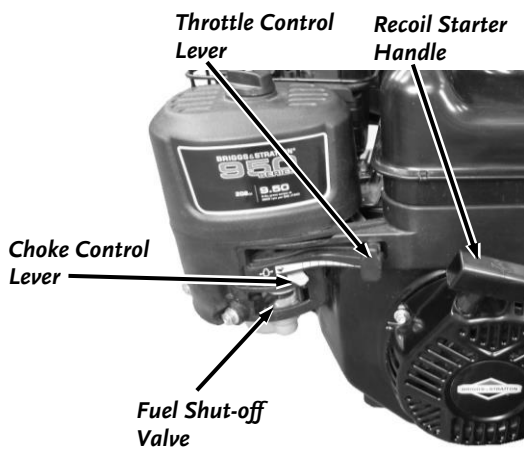
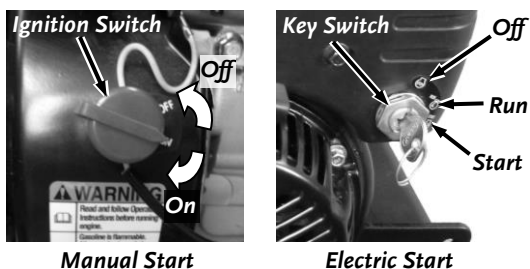

Figure 13
Figure 14
2. Make sure the fuel shut-off valve is in the “ON” position (**Figure 13**).
5. Manual Start: Turn the Ignition Switch to the “On” position (**Figure 14**). Grasp the recoil starter handle and slowly pull until you feel resistance (**Figure 13**). Let the cord retract a little bit then pull the cord rapidly to start the engine. One or two pulls usually starts the engine.
6. Electric Start: Turn and hold the Key in the “Start” position until Engine starts then let the Key return to run position (**Figure 14**).
7. Move the choke control lever (if used for cold engine) slowly back to the OPEN position (to the right) when the engine is running well (**Figure 13**).
1. Move the Throttle Lever to Idle “Turtle” position (**Figure 13**).
2. Manual Start: Turn the Ignition Switch to the “Off” position (**Figure 14**).